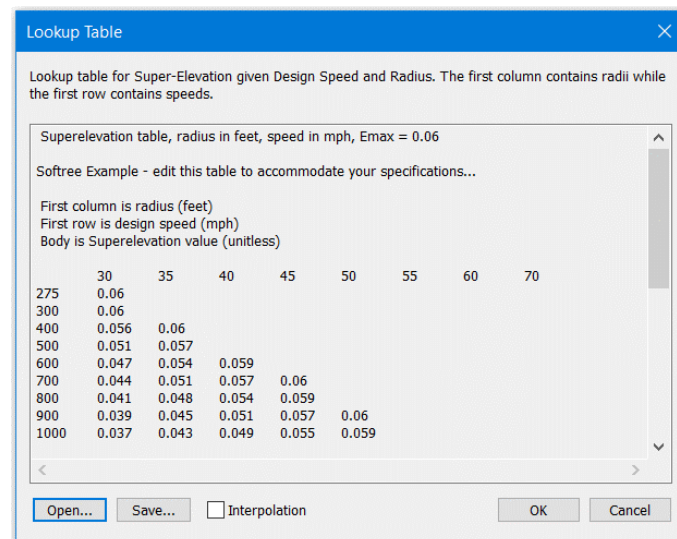

Figure 16-8: Super Elevation Lookup Table Dialogue Box
7. Press the *Select Table* button to open the *Lookup Table* dialogue box (Figure 16-8).